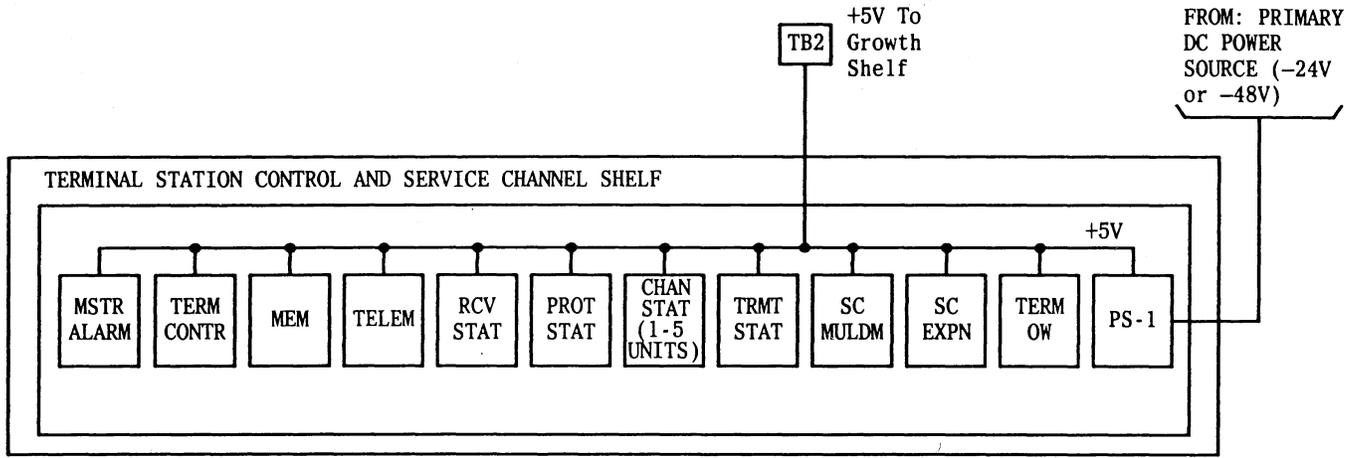

Fig. 36—Terminal Station Control and Service Channel Shelf Power Distribution
- Figure 36—Terminal Station Control and Service Channel Shelf Power Distribution